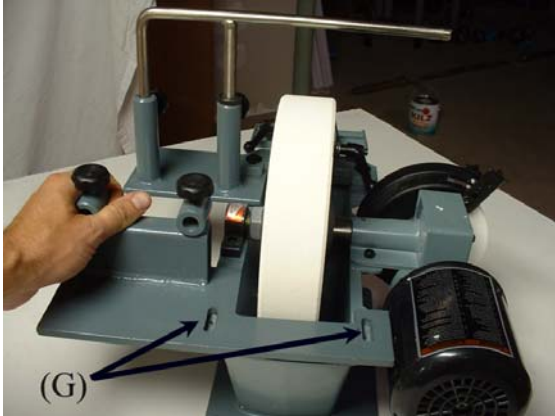
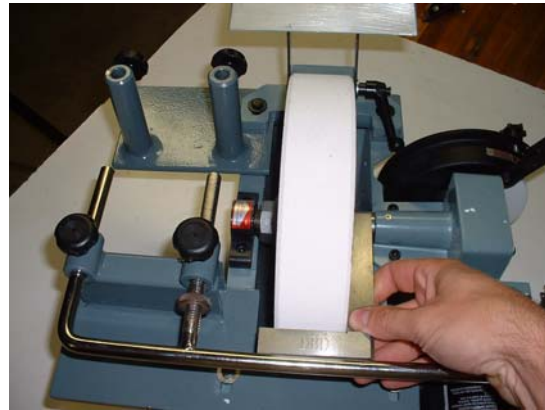
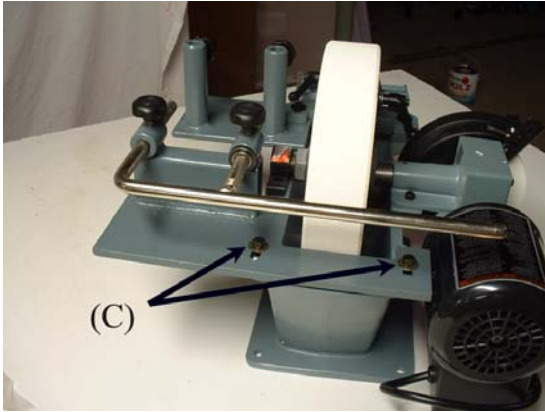

Fig 11. Alignment of horizontal base
Fig 12. Squaring horizontal mount
Fig. 13 Horizontal Base Installed
Align the two slots (G) in the base of the horizontal mount (B) with the threaded holes on the right hand side (when viewed from the back) of the water trough (Figure 11). Insert two supplied hex head bolts with flat and locking washers (D) into the holes and hand tighten. As shown in Figure 12, insert a toolpost and adjust the position so that the jig support portion of the toolpost is square to the side of the grinding wheel. Tighten the mounting bolts until the lock washers are fully compressed (Figure 13).